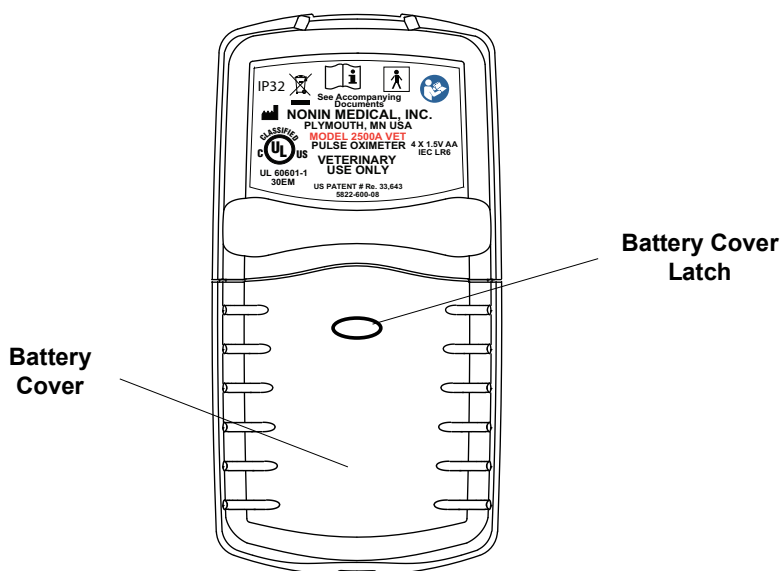

Figure 2: Model 2500A VET - Rear View
1. Press the battery cover latch (figure 2), and slide off the battery cover from the bottom of the unit.